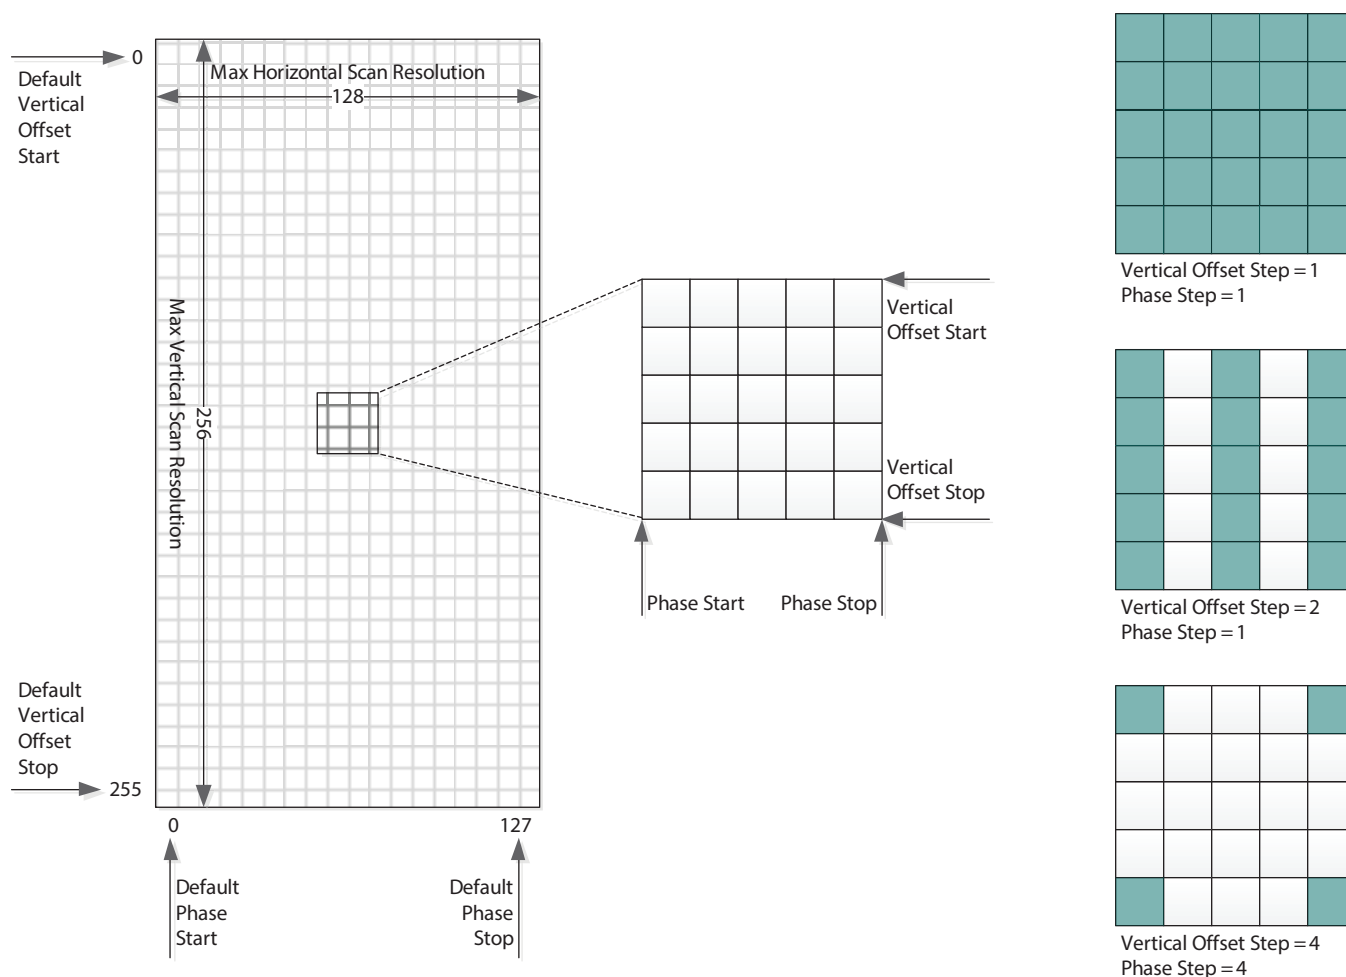

Figure 4-7: Eye Scan Matrix Parameters
Figure 4-7 shows a visual representation of the scan matrix and indicates the spatial parameters that determine the scan area and resolution. Running a scan using the default offset and step parameters, results in 32768 (128x256) samples. The number of samples and thus, the total scan time can be reduced to meet the needs of the application. The scan area can be reduced by reducing the span determined by the vertical and phase start and stop offsets or the resolution can be reduced by increasing the step size between adjacent samples. On the right in Figure 4-7, there are three step settings used as examples, however there are a total of nine combinations possible. See Table 4-6 for the register addresses and parameter names of the spatial eye scan parameters.
Figure 4-7 illustrates an example of an eye scan, where the sampled eye data is not centred within the scan matrix. The eye scan data has an arbitrary centre phase relative to the centre of the matrix which is determined when the Eye Monitor is powered-up. While the Eye Monitor remains powered, subsequent scans will maintain the same relative phase allowing for consecutive scans to be compared for changes.
- ♦ Making reference to the Matrix shown in Figure 4-7, the eye scan data starting at 0x6C02_h is stored in order from left to right, top to bottom, from the last stored vertical/horizontal position in the matrix